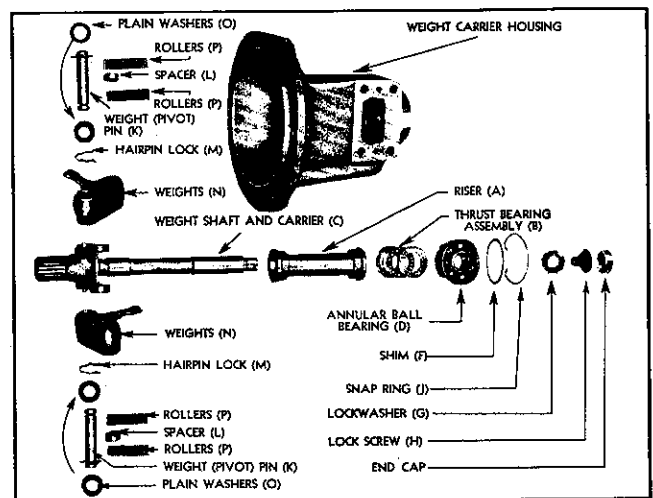

Fig. 24—Constant Speed Mechanical Governor Weight and Housing Details.
1. **Weight and Housing Assembly**—Refer to Fig. 24, and assemble weights, shaft and bearings into housing as follows: